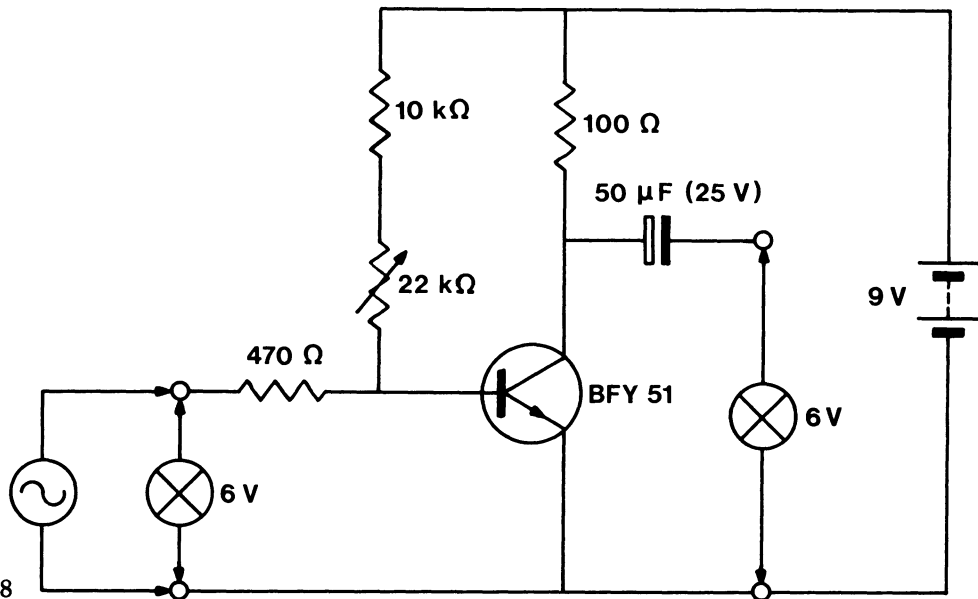

FIG. 1.18
Modify Circuit 5 as shown in Fig. 1.18.
1. Build the transistor circuit shown in Fig. 1.18. The circuit is basically the same as Circuit 5 except that the bulb in Circuit 5 has now been replaced by a  $100\ \Omega$  resistor and a  $470\ \Omega$  resistor has been added at the input to the circuit and a  $50\ \mu\text{F}$  capacitor at its output.